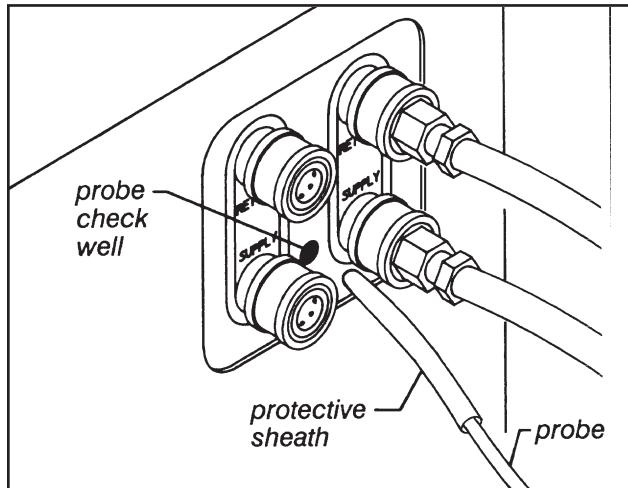

Figure 11—Probe Check Well
- a. Insert probe into protective sheath and then into *PROBE CHECK WELL* on front of machine base (fig. 11, p. 16).